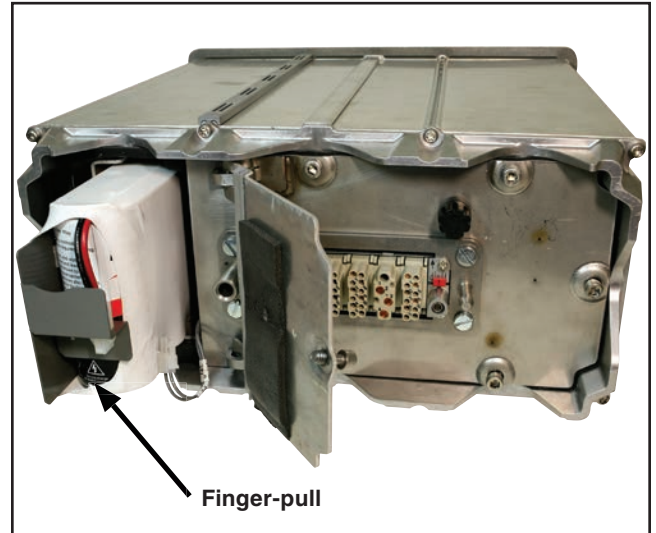

Figure 7. Replacing the battery.
- STEP 4.** Using the finger-pull, slide out the existing battery and slide in the replacement battery. See Figure 7. Reconnect the battery leads.